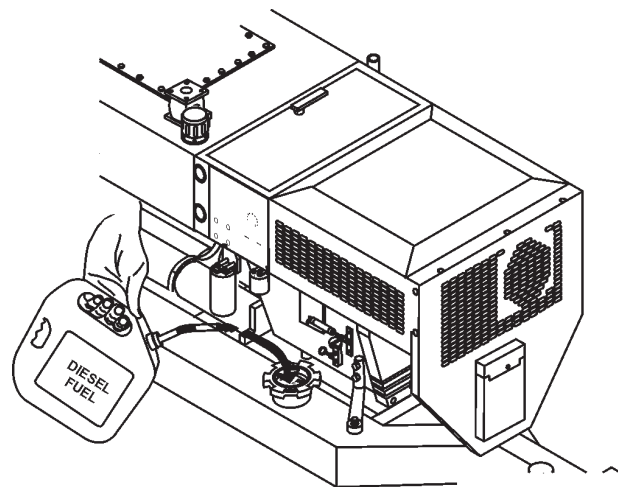

Figure 10. Adding Diesel Fuel
6. If fuel is low, remove fuel filler cap and fill with **#2 diesel fuel** (Figure 10).